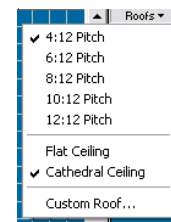

Figure 27
- Click** on the toggle arrow next to the word roof to open up the roof menu as shown in **figure 27**.
Decide on your ceiling and roof pitch. In determining roof pitch, the higher the number the steeper the roof will be. **Figure 27** shows a standard 4:12 pitch which is a common roof pitch.